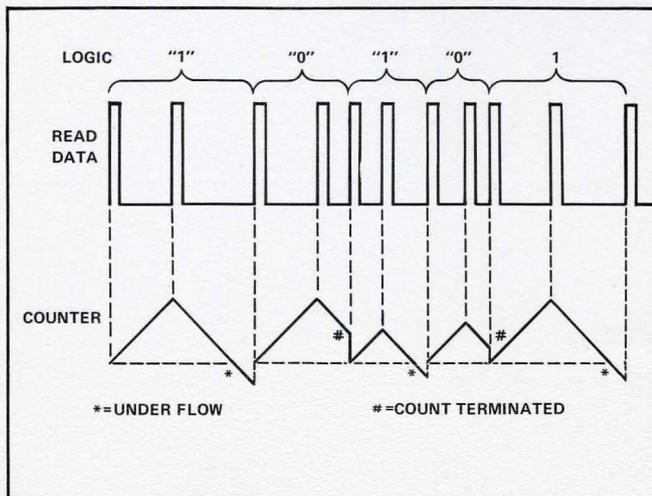

Figure 5 – Data Recovery
**DATA RECOVERY** – After amplification and peak detection, the read signal resembles the waveform shown in Figure 5. It should be noted that this waveform is shown with an exaggerated amount of both long and short term speed variations to